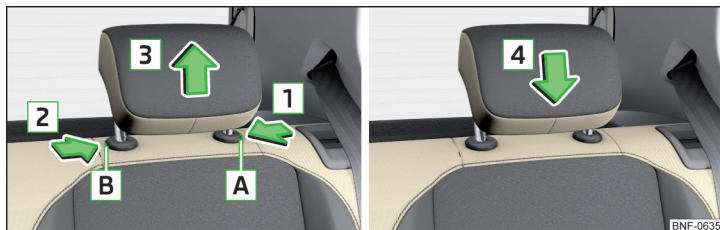

Fig. 52 Removing/inserting the rear headrests
- Hold down the securing button **A** in the direction of arrow **1**, at the same time insert the vehicle key in opening **B** in the direction of arrow **2** and remove the headrest in the direction of arrow **3** » Fig. 52.